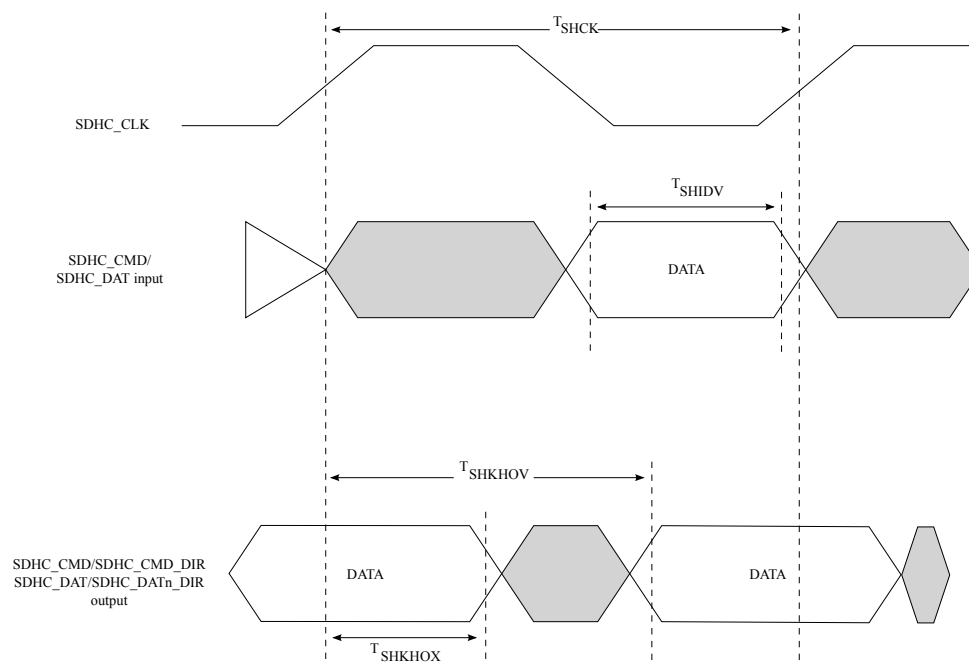
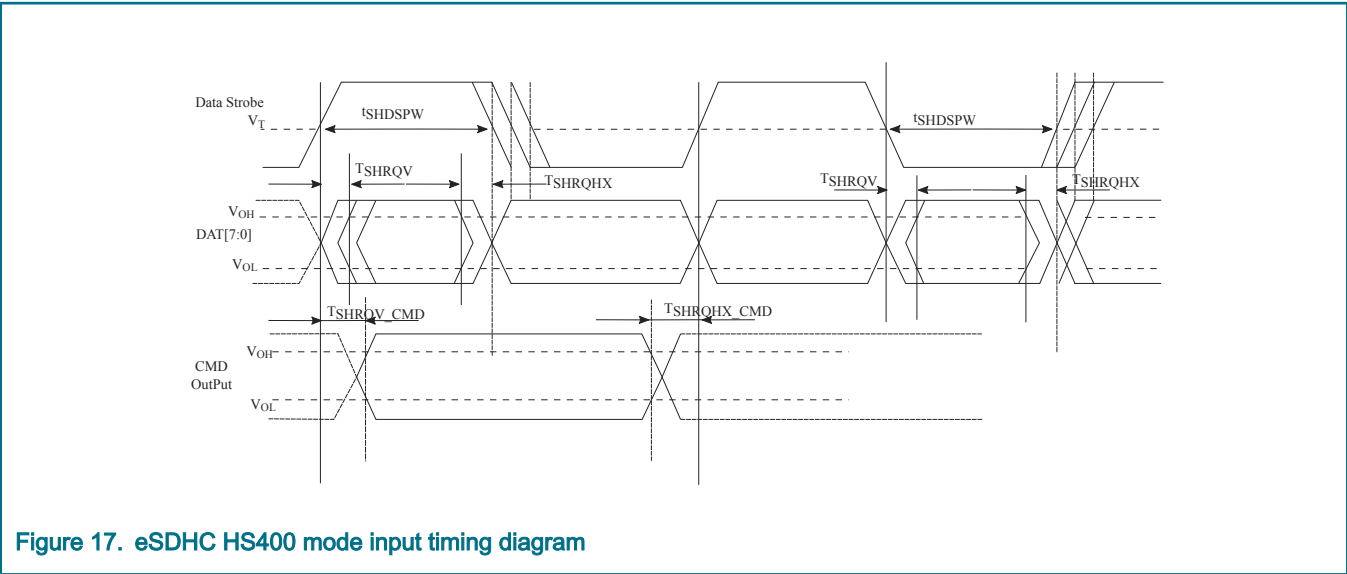

Figure 16. eSDHC SDR104/HS200 mode timing diagram
Figure 17. eSDHC HS400 mode input timing diagram
2. The symbols used for timing specifications herein follow the pattern of $t_{(\text{first two letters of functional block})(\text{signal})(\text{state})(\text{reference})(\text{state})}$ for inputs and $t_{(\text{first two letters of functional block})(\text{reference})(\text{state})(\text{signal})(\text{state})}$ for outputs. For example, t_{SHKHOX} symbolizes eSDHC highspeed mode device timing (SH) clock reference (K) going to the high (H) state, with respect to the output (O) reaching the invalid state (X) or output hold time. Note that in general, the clock reference symbol is based on five letters representing the clock of a particular functional. For rise and fall times, the latter convention is used with the appropriate letter: R (rise) or F (fall).
3. See Figure 16.
1. $C_L = C_{BUS} + C_{HOST} + C_{CARD} \leq 15pF$. 2. The symbols used for timing specifications herein follow the pattern of t (first two letters of functional block)(signal)(state) (reference)(state) for inputs and t (first two letters of functional block)(reference)(state)(signal)(state) for outputs. For example, t_{SHKH0X} symbolizes eSDHC highspeed mode device timing (SH) clock reference (K) going to the high (H) state, with respect to the output (O) reaching the invalid state (X) or output hold time. Note that in general, the clock reference symbol is based on five letters representing the clock of a particular functional. For rise and fall times, the latter convention is used with the appropriate letter: R (rise) or F (fall). 3. See Figure 17. 4. See Figure 18. 5. For HS400 without enhanced strobe (DQS) command, see Figure 16.